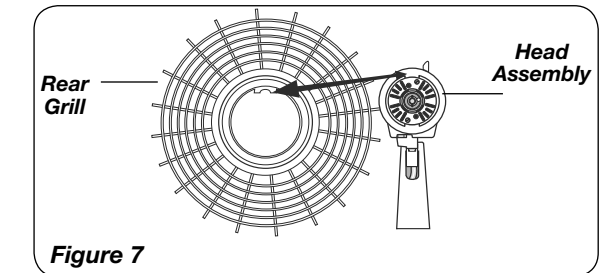

Figure 7
1. Tilt Head Assembly back. Put Rear Grill on Head Assembly. (Figure 7)